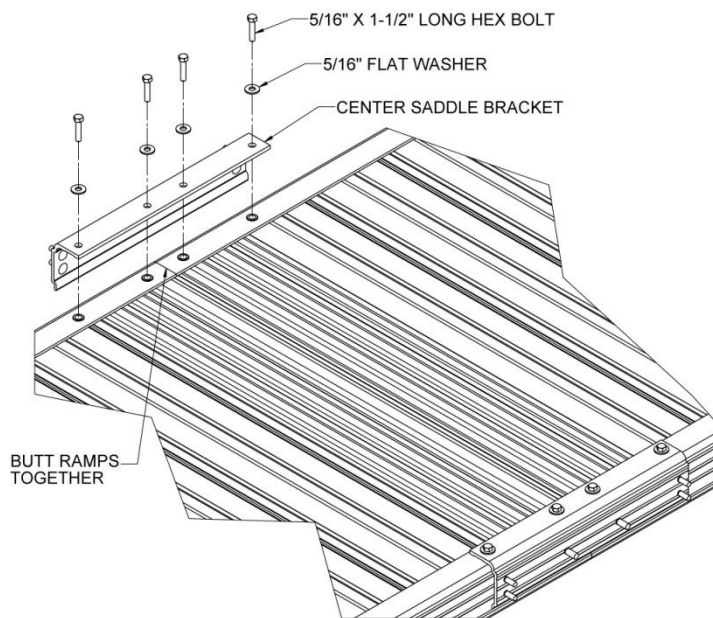

FIG. 3.1
- 3.1.3. Position the two center saddle brackets which are included in the MRRC (CONNECTOR – RAMP TO RAMP) over the threaded inserts found at the end of each ramp section (FIG. 3.1).
- 3.1.4. One edge of the center saddle bracket will slide into the groove of the ramp sections. **NOTE:** Ramp sections are connected to create a ramp run using two interchangeable center saddle brackets per joint. The center saddle brackets are also where the handrails and support tube brackets (also included in part number MRRC) are attached (FIG. 3.1).